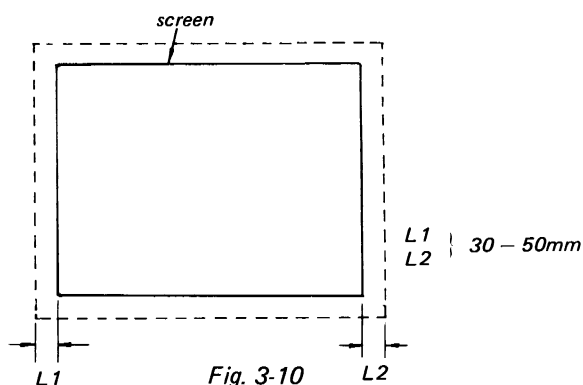

Fig. 3-10
- (10) Adjust RV5538 (H SIZE (G)) so that the horizontal picture size is as shown in Fig. 3-10.